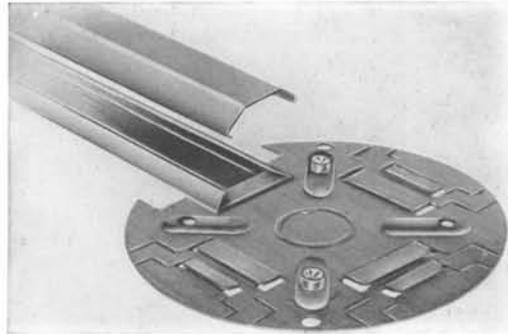

FIG. 11—BASE OF FITTING WITH COVER
- When using Wiremold or Florduct, cut small size covers 3/8 inch shorter and large size covers 5/8 inch shorter than their bases (see Fig. 11).